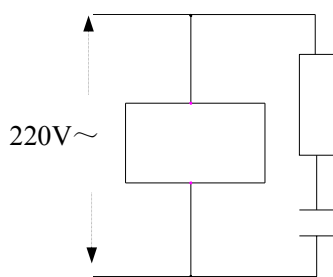
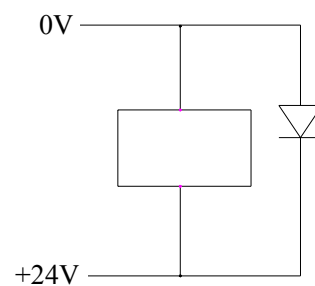
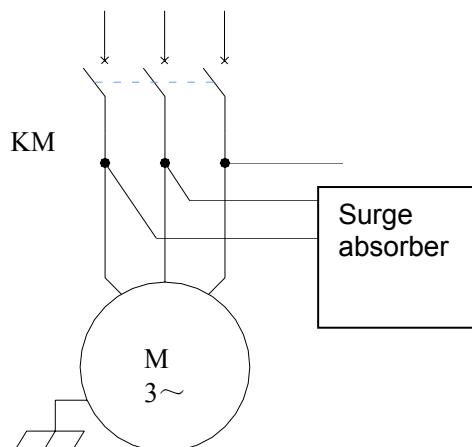

Fig. 1-6
Fig. 1-7
Fig. 1-8
3. Barrage jamming: Connect RC loops in parallel at the ends of AC coil (shown in fig1-6), and try to be close to the perceptual load during installing RC loops; connect the fly-wheel diode in parallel reversely at the ends of DC coils (shown in fig 1-7); connect surge absorber in parallel at AC motor winding end (shown in fig 1-8).